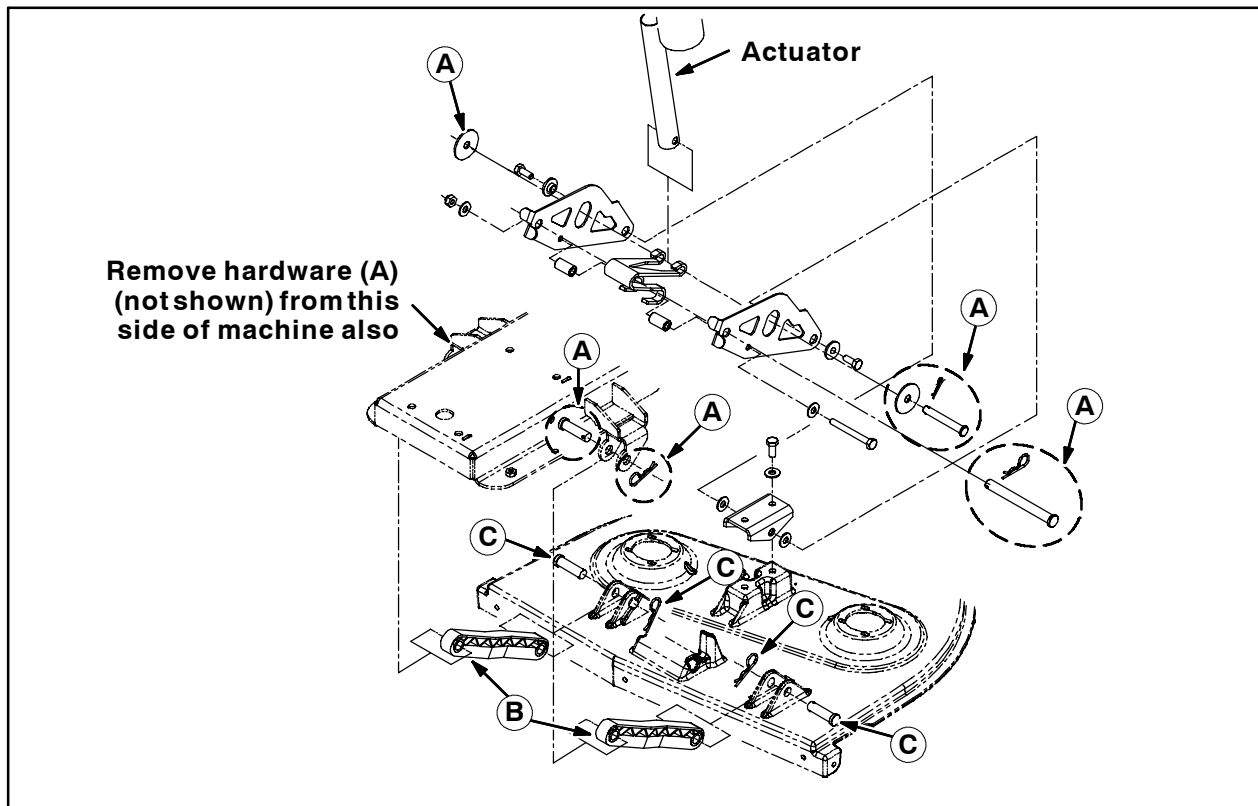

FIG. 2
9. Remove the hardware (A) holding the scrub head to the machine and slide the scrub head from under the machine. Set the hardware aside. Refer to Fig. 2.
10. Remove the lift arms (B) from the scrub head. Set the lift arms and hardware (C) aside. Refer to Fig. 2.
2. Use the saved hardware (C) to install the lift arms (B) onto the new scrub head (1). Refer to Fig. 2.
4. Position the scrub head (1) under the machine and use the saved hardware (A) to install the scrub head onto the machine. Refer to Fig. 2.